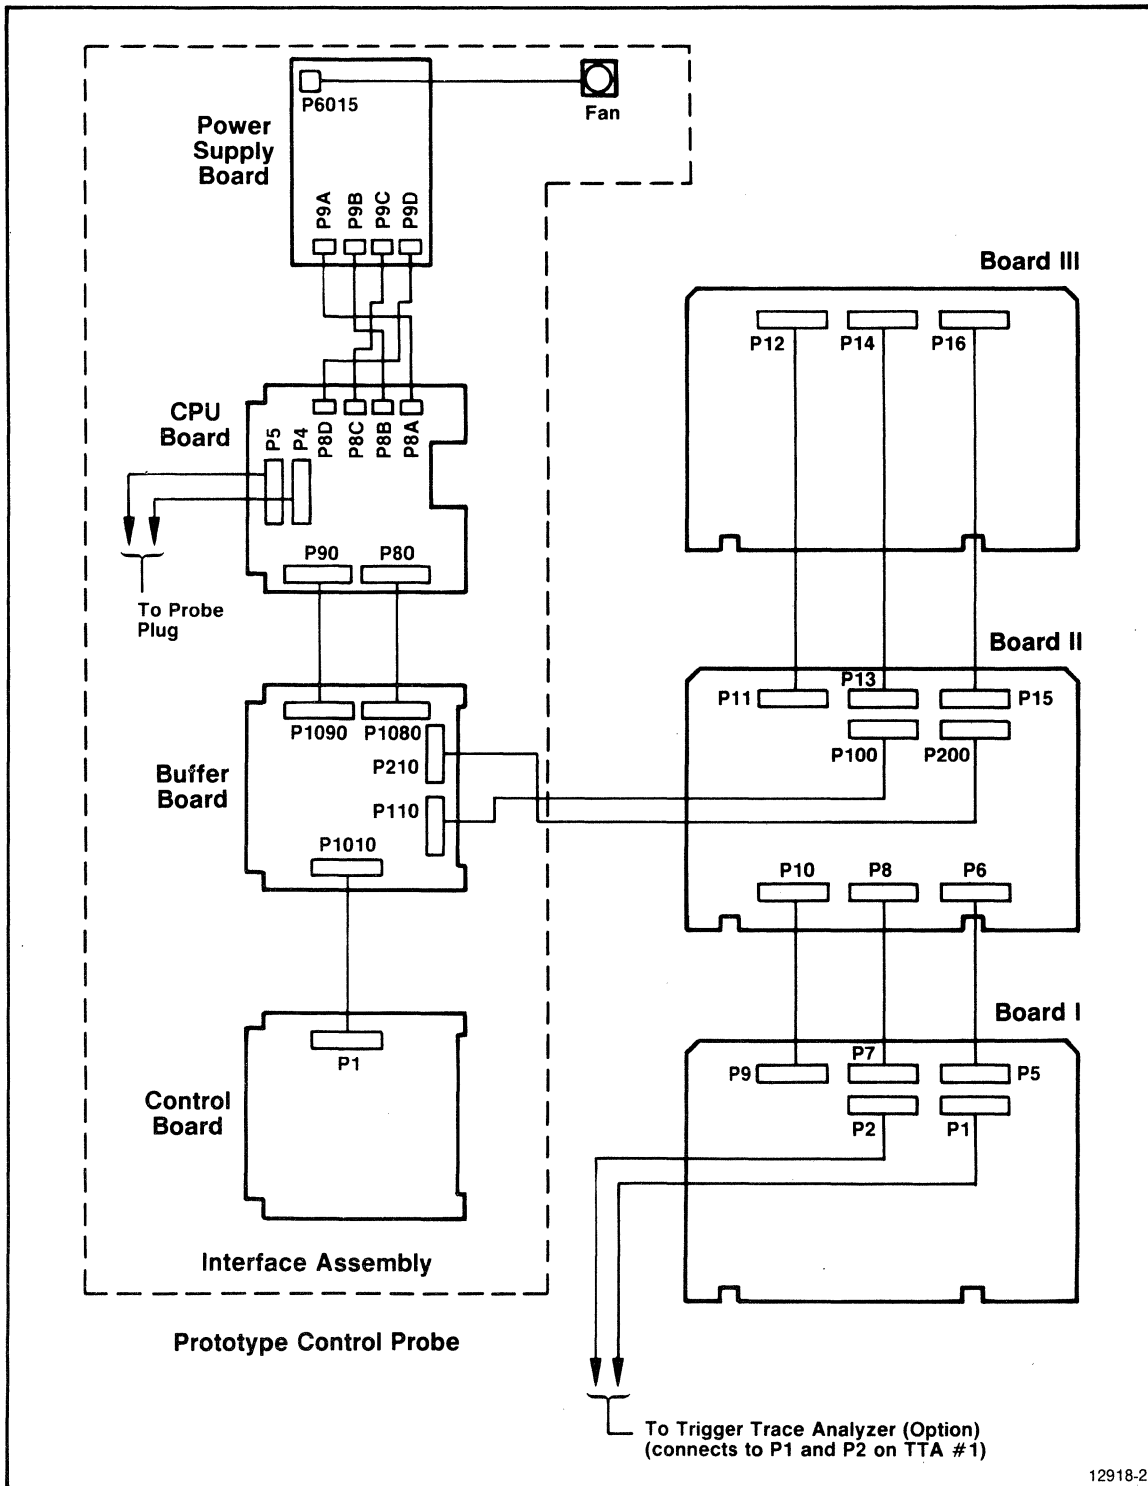

Figure 6-7. Emulator boards with prototype control probe.
11. Attach the two ribbon cable connectors labeled J100 and J200 to P100 and P200 on Board II, as shown in Figure 6-7. Be sure that pin 1 of each cable connector (blue stripe) and pin 1 of each socket are aligned. Pin 1 of P100 and P200 is to the left when viewed from the component side of the board.
Figures 6-7 and 6-9 shows the connections between the TTA and the 80186/80188 Emulator. To install the TTA with the emulator, follow these steps: